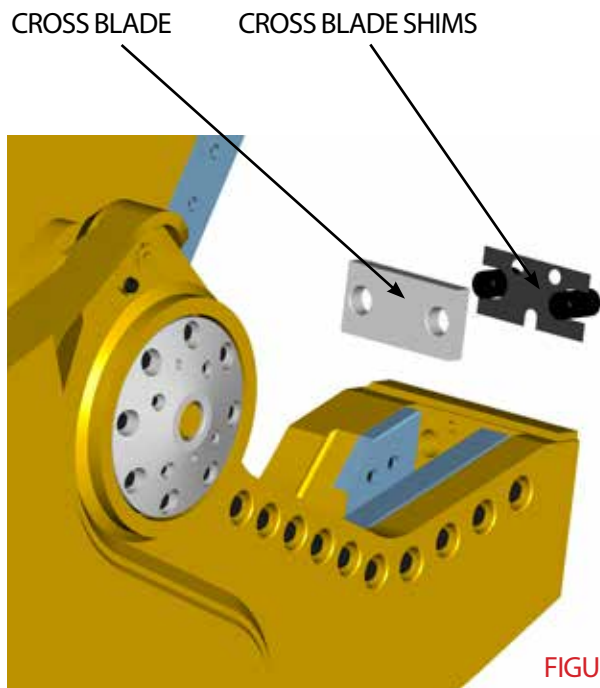

FIGURE 5-12
7. If there were shims behind the cross blade when it was removed, make sure to reinstall them (see Figure 5-12). Replace any damaged shims. Tap the face of the blade with a soft-faced mallet to make sure that it seats firmly.